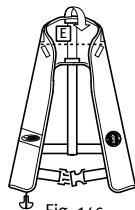

Fig. 14c
3. Fold down the collar (Flap E) along the dotted line and secure with Velcro tabs (Fig. 14c).